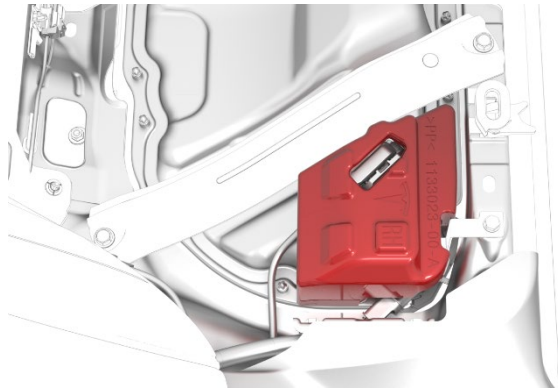

Figure 3
6. Remove the foam cover from the RH side of the penthouse (Figure 3).